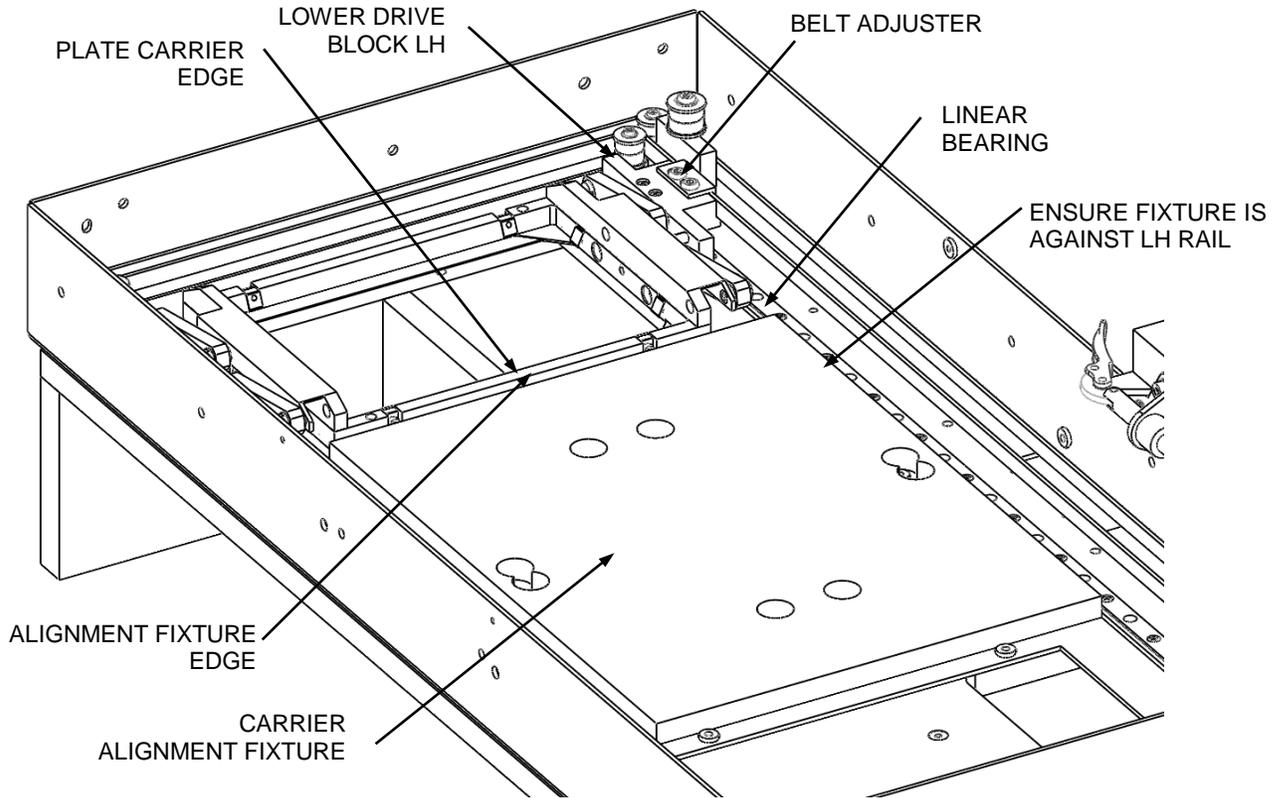

Figure 12-65: Moving Plate Assembly to Front of Chassis
11. Move the plate Carrier assembly to the front of the Reader Chassis and fit the Carrier Alignment fixture DS2FIX019 into the reader chassis ensuring it is firmly against the left hand linear rail (Figure 12-65). Slide the Plate carrier up to the edge of the fixture to check that fitting the Belt Adjuster in the previous step did not twist the Carrier. Both the Carrier and Fixture edges should line up. If they don't, loosen the screws holding the Belt Adjuster and adjust until they do. Remove the fixture.